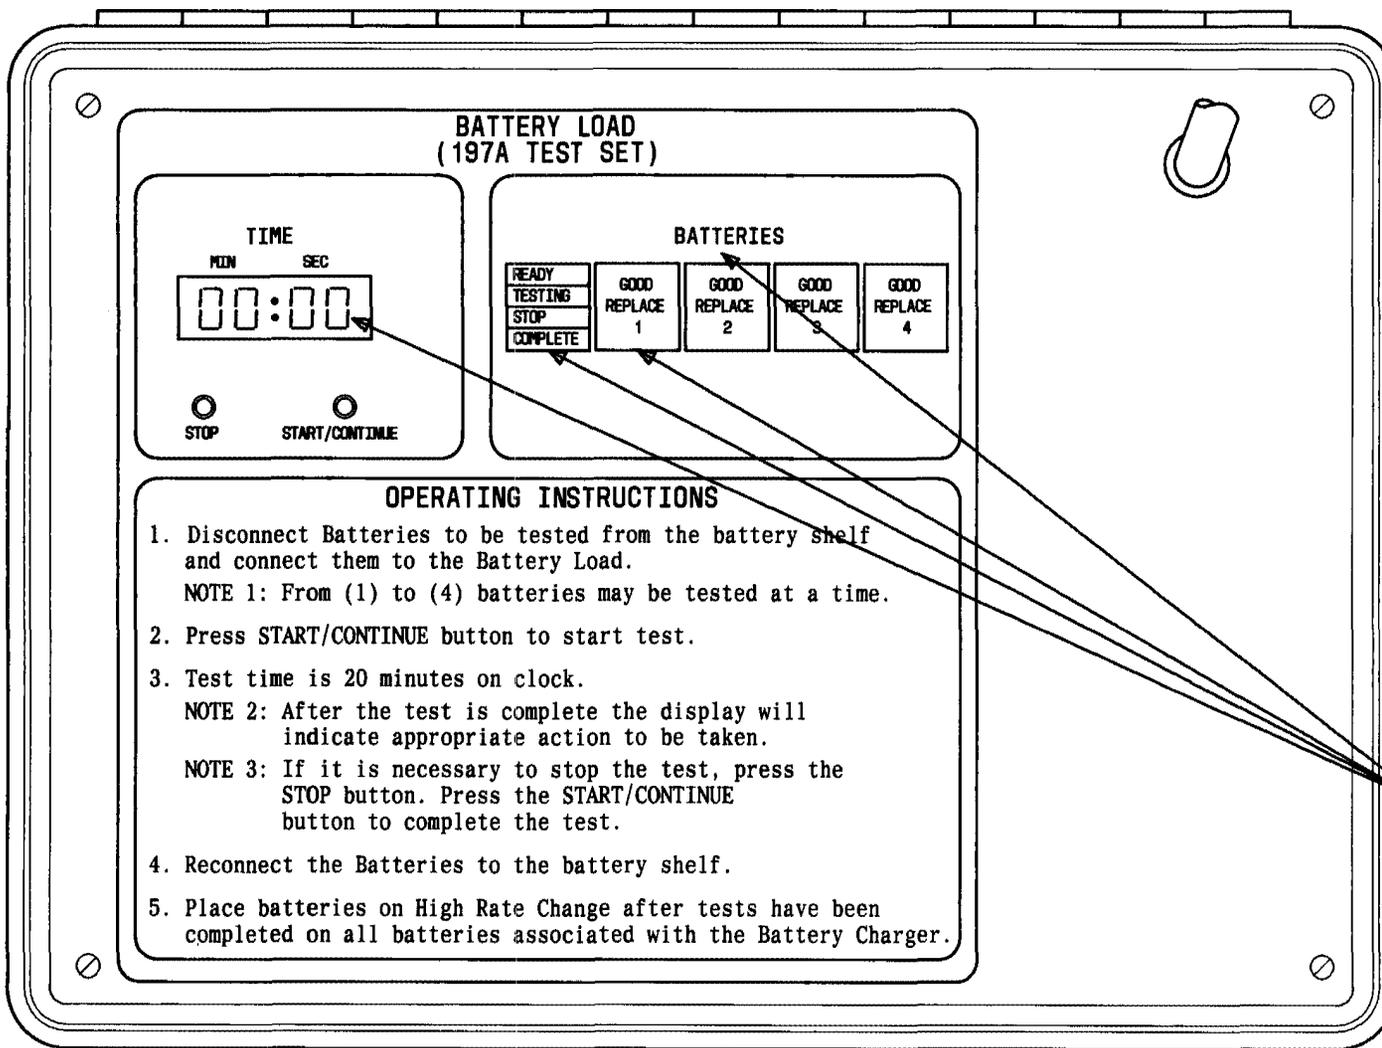

Fig. 2— 197A Battery Load Test Set Front Panel
2.02 The LCDs indicate the status of the test set, the test time, and the test results for each battery. The location of the controls and LCDs on the front panel allow the test set to be conveniently operated while stationary on the floor. (See Fig. 2.) The LCDs are mounted in sockets for easy replacement and captivated by a plexiglass window to prevent them from vibrating free. The START/CONTINUE button and STOP button, located on the front panel, start and stop the discharging of the batteries and test set clock. A self-test function of the test set indicates proper operation. The front panel also contains a simplified set of operating instructions.
3.01 The 197A battery load test set contains a TIME display and a batteries display located on the front panel above the general OPERATING INSTRUCTIONS (Fig. 2).
3.03 The batteries liquid crystal display (Fig. 2) displays the status of the 197A battery load test set as READY, TESTING, STOP, and COMPLETE. The results of the test on each battery are displayed as GOOD or REPLACE. When the STOP button is pressed to stop the test before completion, the STOP display lights.
Requirement 1: The TIME display indicates 00 minutes and 00 seconds. (Fig. 2.)